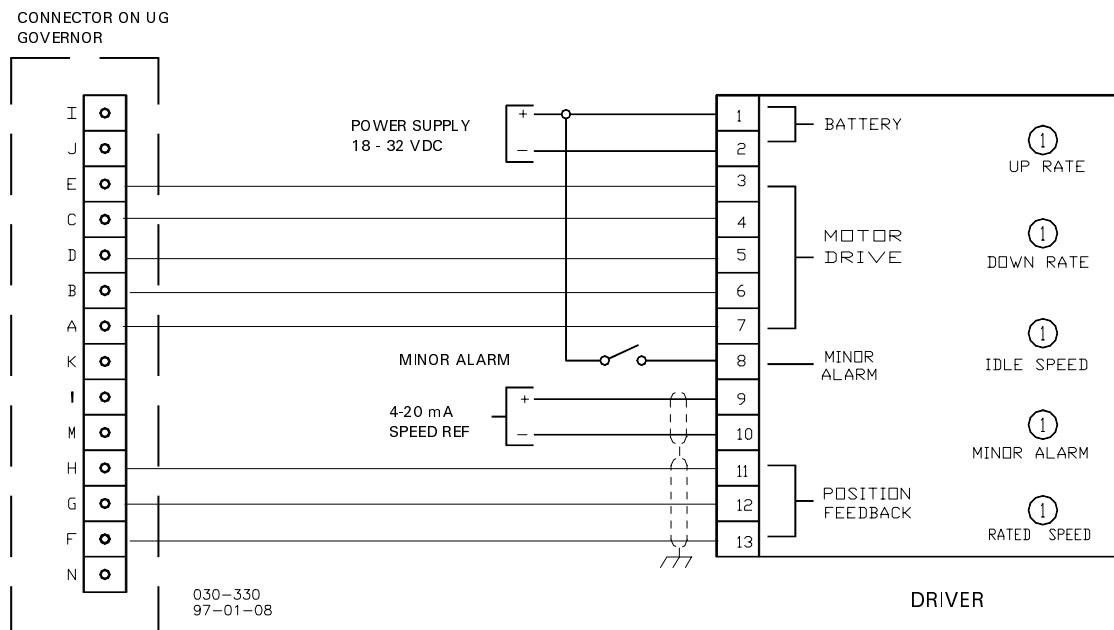

Figure 2-6 UG MAS Wiring Diagram
- Use shielded wires for the signal lines according to the wiring diagram Figure 2-6, to prevent interference from other equipment.
Connect the UG MAS driver box to the UG MAS governor connector see Figure 2-6 Wiring Diagram.
- Check for correct wiring and grounds, refer to Figure 2-6 Wiring Diagram.